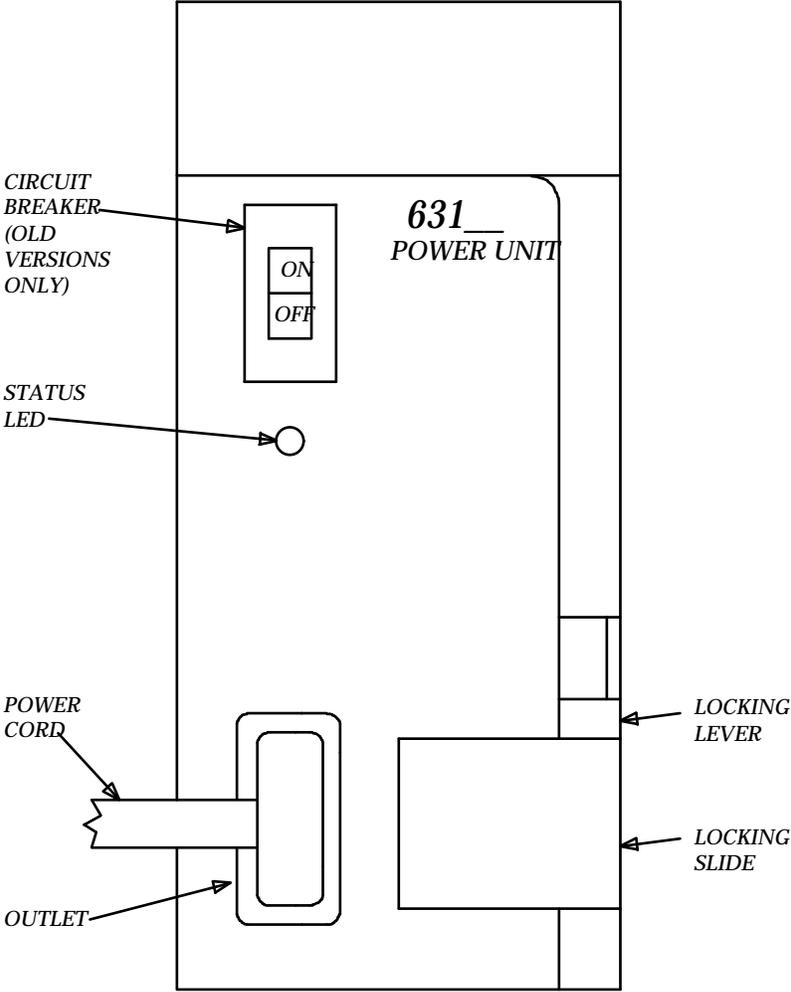

FIGURE 4-10. 631-Type Power Unit
4. Connect the power cords to the power units. The power cords are the white cables equipped with plugs that are run through the slots in the front of each carrier (see Figure 4-10).